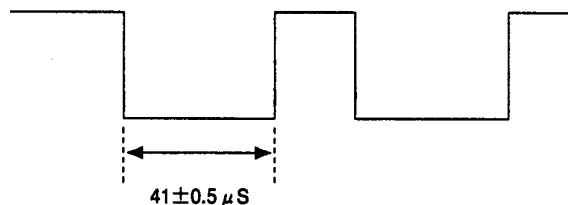

Fig.5-6
- 5) Connect the probe of an oscilloscope to IC503 ⑦ PIN. Adjust **H DELAY** so that the output waveform will be as shown in Fig.5-6.